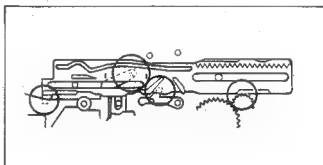
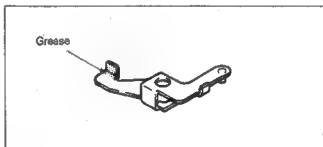

Fig. 7-42.
Fig. 7-43.
- 2) Push mode arm ④ in the direction of arrow ③, and mount the M slider ⑤, noting the positioning of the other parts as shown in Fig. 7-42, and fix the stopper washer ⑥.
- 3) Mount hard brake S ⑦ and hook spring ⑧.
- 4) Grease. (See Fig. 7-43.)
- 5) Put a half drop of oil from the shaft ⑨ groove to the bottom, mount the pinch press lever assembly ⑩ and insert the E ring ⑪.
- 6) Mount RL arm ⑫, hook the spring ⑬ and fix the stopper washer ⑭.
- 7) Mount B release slider ⑮ and fix stopper washer ⑯.
- 8) Mount REW brak spacer ⑰ and REW brake assembly ⑱.
- 9) Hook the two springs ⑲.